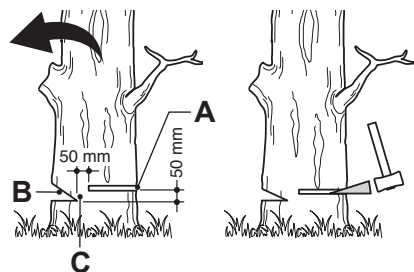

Fig. 36
1. Make the notch (Fig. 36, B) 1/3 the diameter of the tree, perpendicular to the direction of falls (Fig. 36). Make the lower horizontal notching cut first. This will help to avoid pinching either the saw chain or the guide bar when the second notch is being made.
1. Make the felling back cut (Fig. 36, A) at least 50 mm higher than the horizontal notching cut (Fig. 36). Keep the felling back cut parallel to the horizontal notching cut. Make the felling back cut so enough wood is left to act as a hinge. The hinge (Fig. 36, C) wood keeps the tree from twisting and falling in the wrong direction. Do not cut through the hinge.